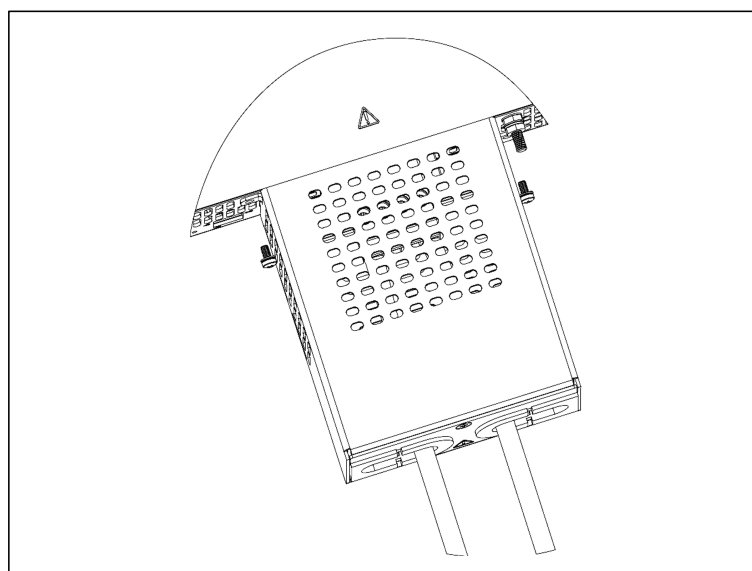

Figure 4-30: Output Connector Protection Assembly
6. Fix the output protection assembly to the rear panel of the power supply and tighten the screws as shown in Figure 4-30. Tightening torque: 4.7 ÷ 5.7 Lb.-inch (0.53 ÷ 0.64 Nm).